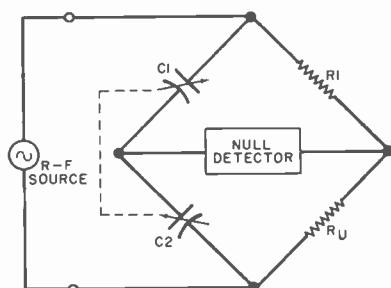
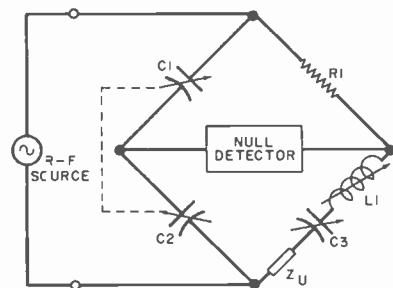

Fig. 1. Basic r-f bridge uses dual differential capacitor but gives only resistive information.
Fig. 2. More sophisticated bridge can measure reactance as well as resistances.
**About the Circuit.** The schematic diagram of a basic r-f bridge is shown in Fig. 1. It obviously resembles the classic Wheatstone bridge, which has four resistive arms. Two of these arms are usually derived from a potentiometer. The r-f bridge, however, employs a dual differential variable capacitor ( $C1C2$ ) so that measurements can be performed over a wide range of frequencies. If a potentiometer were used, its frequency-dependent intrinsic reactance would cause the bridge to yield false results.
The bridge in Fig. 1 will only measure the unknown's resistive component. More complete information about the unknown (including its reactance) can be obtained by measuring it on the bridge shown in Fig. 2. This circuit re-
sembles that of Fig. 1, but two components ( $C3$  and  $L1$ ) have been added to the bridge's lower right arms. To underscore the bridge's greater measuring facilities, the unknown is no longer represented as a resistance ( $R_U$ ), but as a general impedance ( $Z_U$ ).
As in Fig. 1, dual differential capacitor  $C1C2$  is used to measure the real (resistive) component of the unknown com-